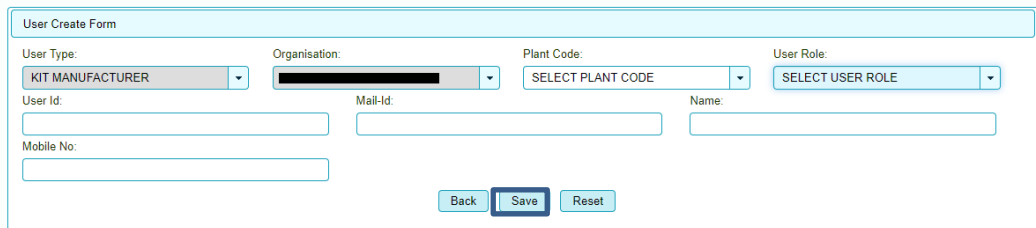

Figure 5: Creation of master user
- Click on “User Management Tab” and select the default option, “Create New User” from the drop-down list. The window, in Figure 5, appears with the name of the retrofitting company: